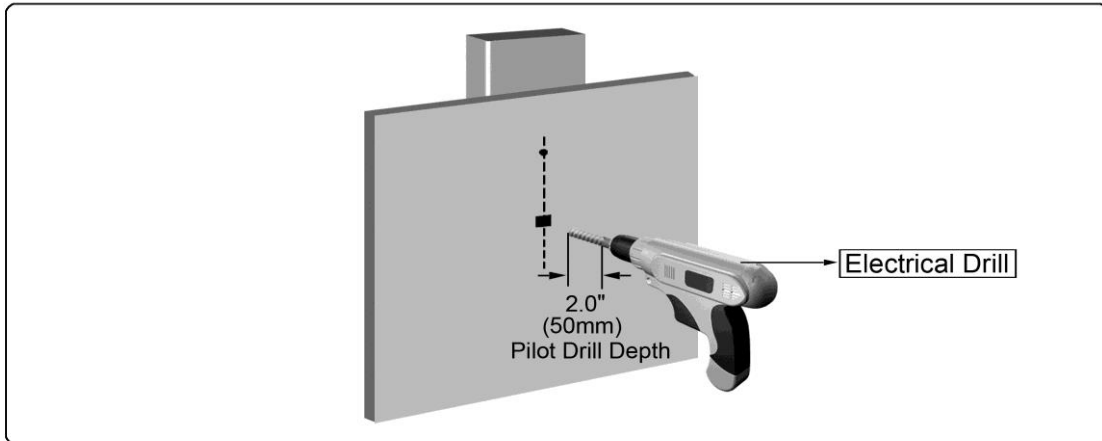

Figure 1-2
2. Ensure that the pilot holes are straight and centered on the wooden beam. Proceed to drill pilot holes 2" into the beam (**See Figure 1-2**).